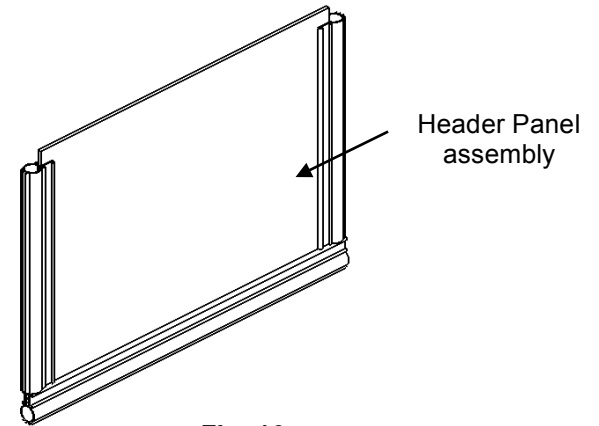

Fig. 16
19. First assemble Header panel (fig. 16).